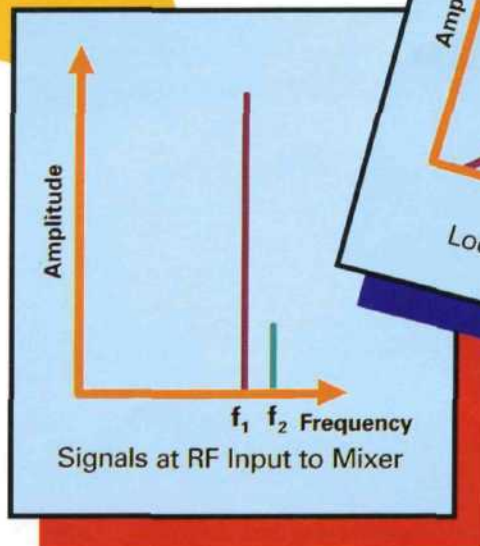
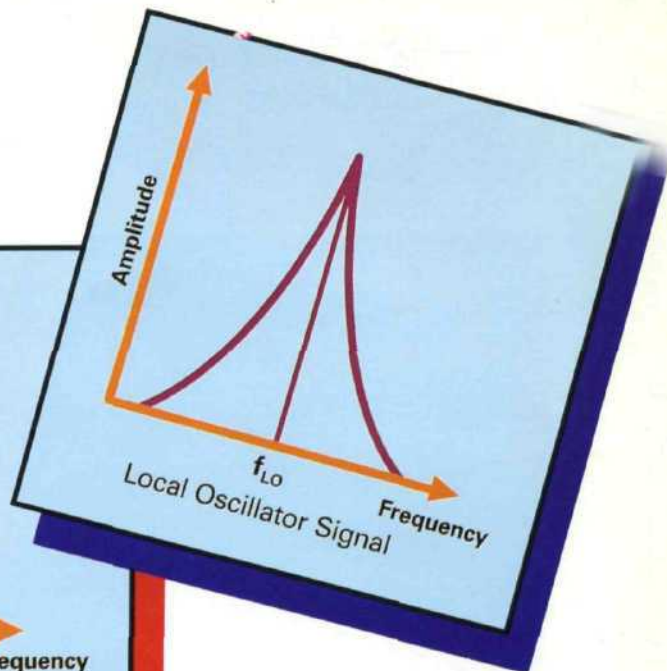

Figure 8. Two signals to be down-converted with a local oscillator.
Figure 9. Local oscillator with phase noise.
Spectral purity is needed on signal generators used as local oscillators. Let's look at two signals, f_1 and f_2 in Figure 8. These signals are to be mixed with a local oscillator signal (Figure 9.) down to an intermediate frequency (IF) where highly selective IF filters can separate one of the signals for amplification, detection, and baseband processing. If the desired signal is the larger signal, there should be no difficulty in recovering it.